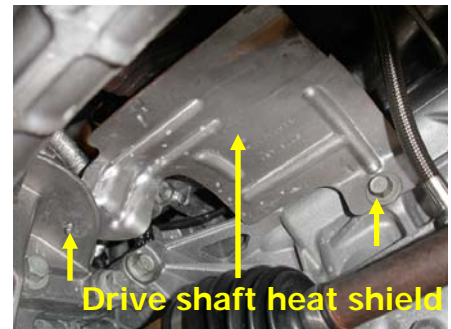

Fig. 1
3. Remove drive shaft heat shield – the heat shield is held on with two (2) fasteners. First, remove the heat shield-to-transmission bolt; second, remove the heat shield-to-engine block bolt. Keep the fasteners and heat shield in a safe place, they will be reinstalled later (Figure 1).
5. Disconnect exhaust – disconnect the exhaust at the manifold by removing the three (3) 15mm nuts. Slide the exhaust flange off the studs and move to the side. There should be sufficient compliance in the exhaust system hangers to move the exhaust rearward enough to slide the flange off the studs.
6. Remove manifold – begin by removing the three (3) fasteners that retain the heat shield. Remove the heat shield and place to the side. This heat shield will not be reused. Remove the ten (10), 13mm nuts holding the manifold to the cylinder head. The manifold will need to be removed from the bottom of the vehicle. CAUTION: Use caution as not to damage the O₂ sensor in the manifold. Check the condition of the gasket. New gaskets for the manifold and exhaust are recommended.